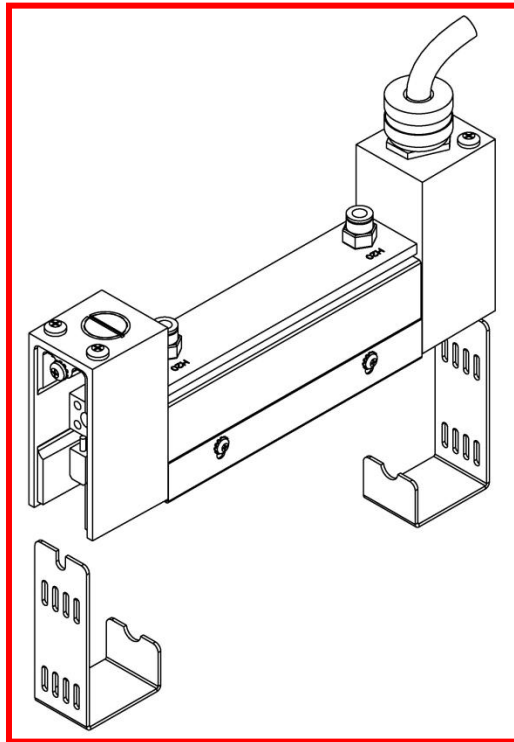

Figure 6-1. Model 5306B End Cover Removal.
6.1 LAMP REMOVAL/REPLACEMENT/INSTALLATION: The T3-style lamp is installed into the Model 5306B heater when shipped from the factory. The following procedure details the process to replace the lamps in the Model 5306B (reference Figure 6-1,& 6-2):